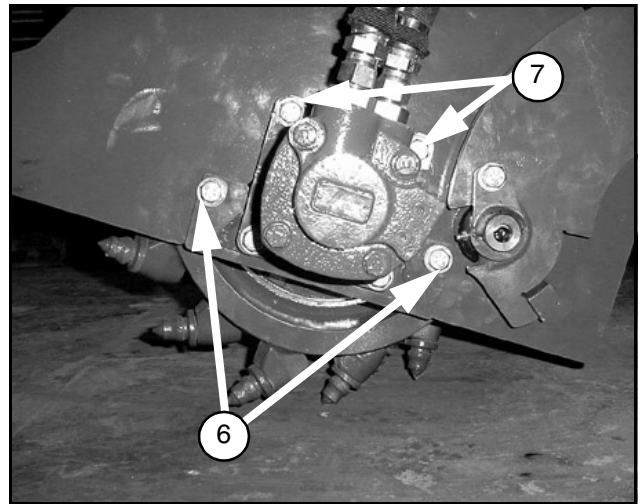

Figure 19.
10. Remove the two upper motor bolts (7) and the two motor plate mount bolts (6) as shown in Figure 19.